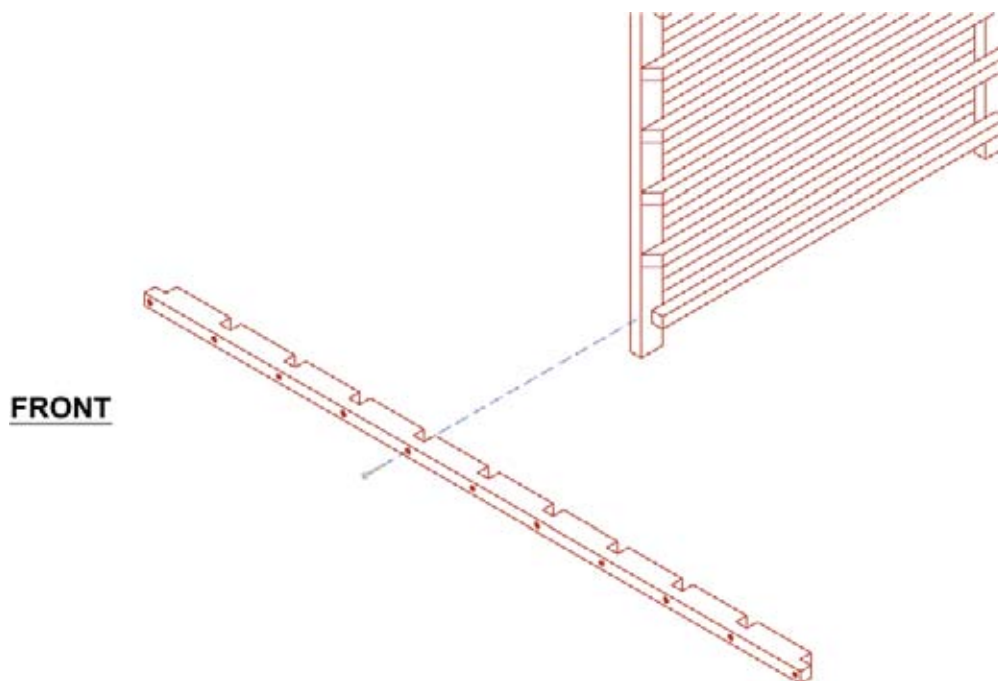

Figure 1
2. Set your middle double-sided ladder (62 $\frac{3}{8}$ " long) on the floor and fit your spacer bar on the front upright of your ladder by placing the dados (or grooves) of the spacer bar onto the upright (**Figure 1**). It may be necessary to tap the spacer bar lightly with a soft-faced hammer to fit, taking care to align the spacer bar vertically with the spacer slat behind it.